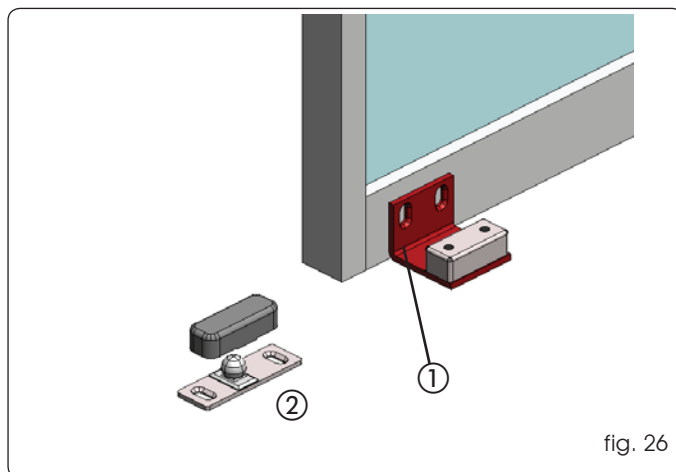

fig. 26
- Secure the sliding blocks as shown in Fig. 26 ref. ①, using adequate screws.
- Directly secure the sliding block to the floor, as shown in Fig. 26 ref. ②, using adequate expansion plugs and screws.